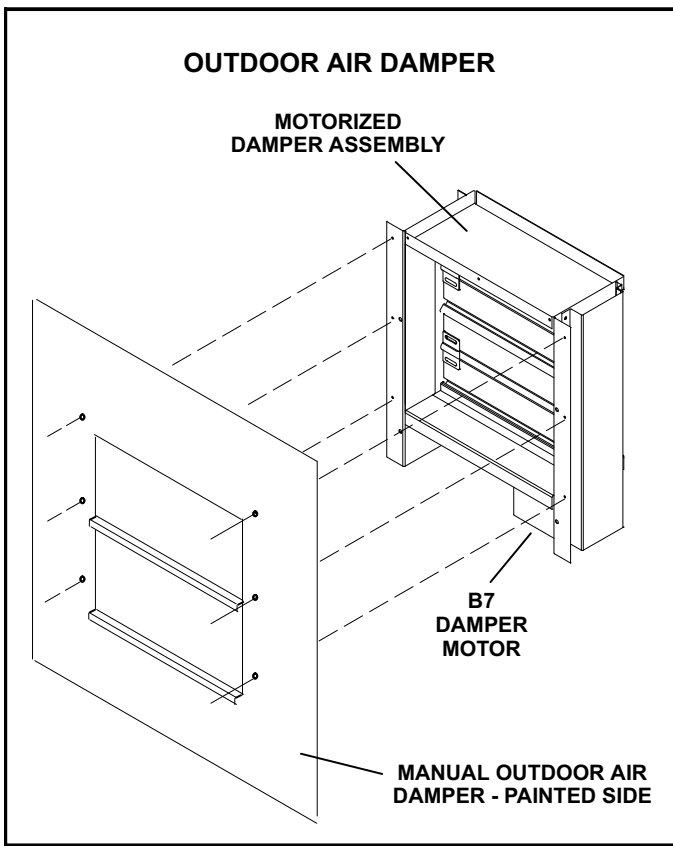

FIGURE 26
C1DAMP11A-2 is available for KDB 2, 3, 4 and 5 ton unit. Both sets include the outdoor air hood. A motorized kit (C1DAMP21A-1) can be ordered separately for all KDB unit sizes. The dampers may be manually or motor (M) operated to allow up to 25 percent outside air into the system at all times (see figure 26). Washable filter supplied with the outdoor air dampers can be cleaned with water and a mild detergent. It should be sprayed with Filter Handicoater when dry prior to re-installation. Filter Handicoater is R.P. Products coating no. 418 and is available as Lennox Part No. P-8-5069.